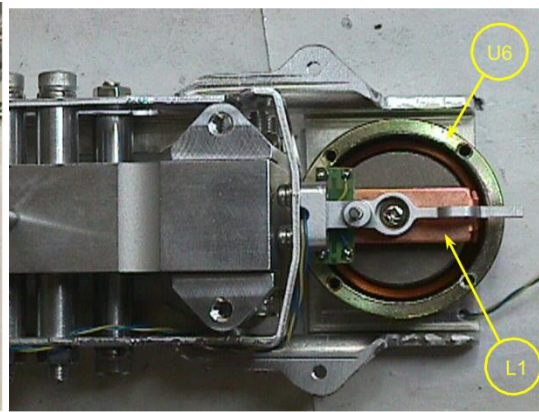

Fig.19
- Look in from the top of the Unit assy (1), and fix the Force coil assy (L1) into place where the center of the Force coil assy (L1) is aligned with the Assy,Magnet (U6) (Fig.19).